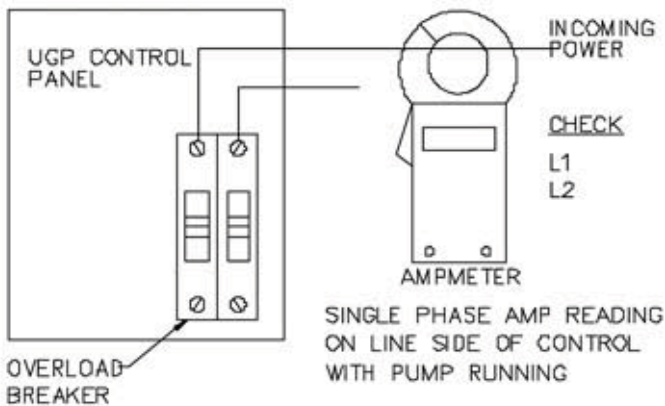

Figure 6
**Single Phase:** Using a clamp on amp meter, clamp amp meter to the L1 wire between the service drop and control panel circuit breaker. Turn pump power on at the control panel circuit breaker, (see Figure 6).